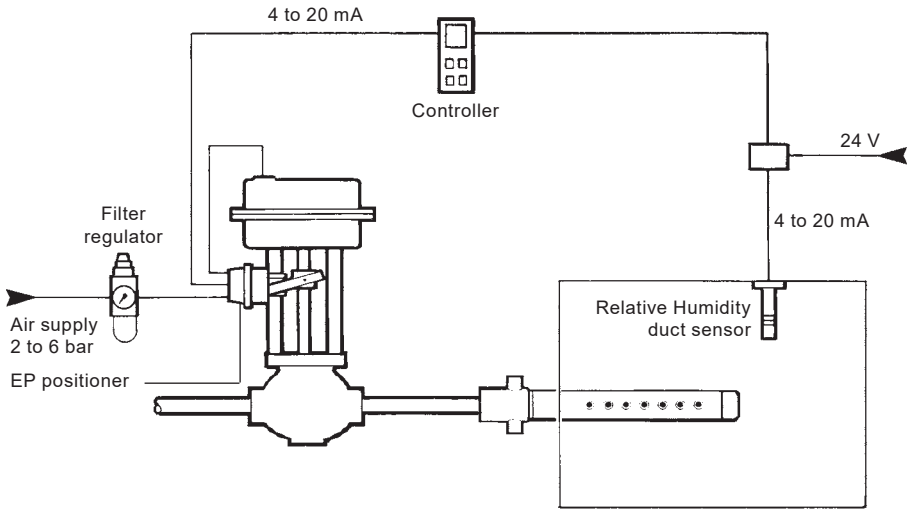

Fig. 20
- 3.10.4 Figure 20 shows a typical pneumatic control system, incorporating a positioner.